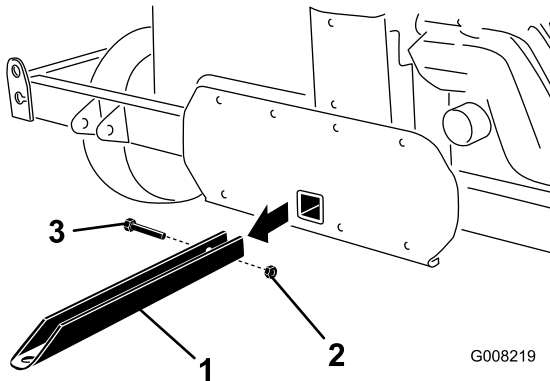

Figure 7
1. Remove the bolt and nut securing the tow bar to the front of the core processor (Figure 7).